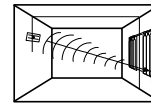

Fig. 3
For optimal performance the Wireless GBR should be mounted as nearly opposite to the glass area to be protected, as shown in Fig 3.
- **Opposite Wall Mounted** (For optimal results, Wireless GBR is centered opposite glass, see Fig. 3).